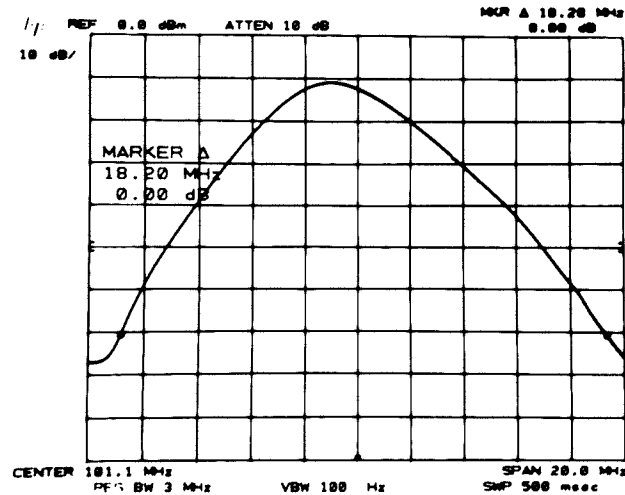

Figure 4-8. 60 dB Bandwidth Measurement
4. Press MARKER  and position marker at peak of signal trace. Press MARKER  and position movable marker 60 dB down from the stationary marker on the positive-going edge of the signal trace (the MARKER Δ amplitude readout should be 60.00 dB \pm 1.00 dB). It may be necessary to adjust  so that both 60 dB points are displayed (see Figure 4-8).
6. Read the 60 dB bandwidth for the 3 MHz resolution bandwidth setting from the MARKER Δ frequency readout (see Figure 4-8) and record the value in Table 4-6.